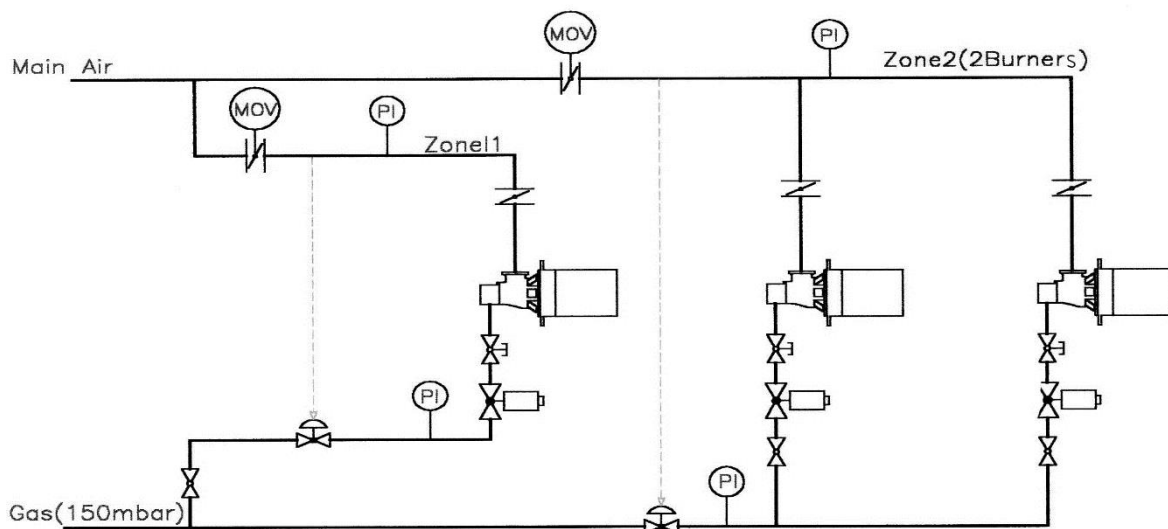

Fig 1 Suggested Piping Arrangement for NAMG & AMG Burners
- Pipe lines in a manner similar to that shown in Figure 1. Flexible connections are recommended in air and fuel lines to minimize strain from piping and thermal expansion.
- Connect impulse piping as shown in Figure 1. These piping arrangements are designed to keep air and gas flows on desired ratio at all firing rates.